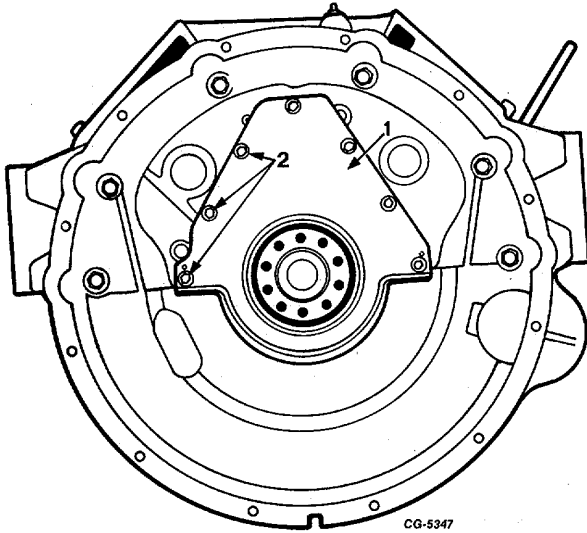

Fig. 54 Rear Oil Seal Retainer Plate Removal
59. Remove retainer plate bolts and remove retainer plate with rear oil seal and gasket, Figure 54.